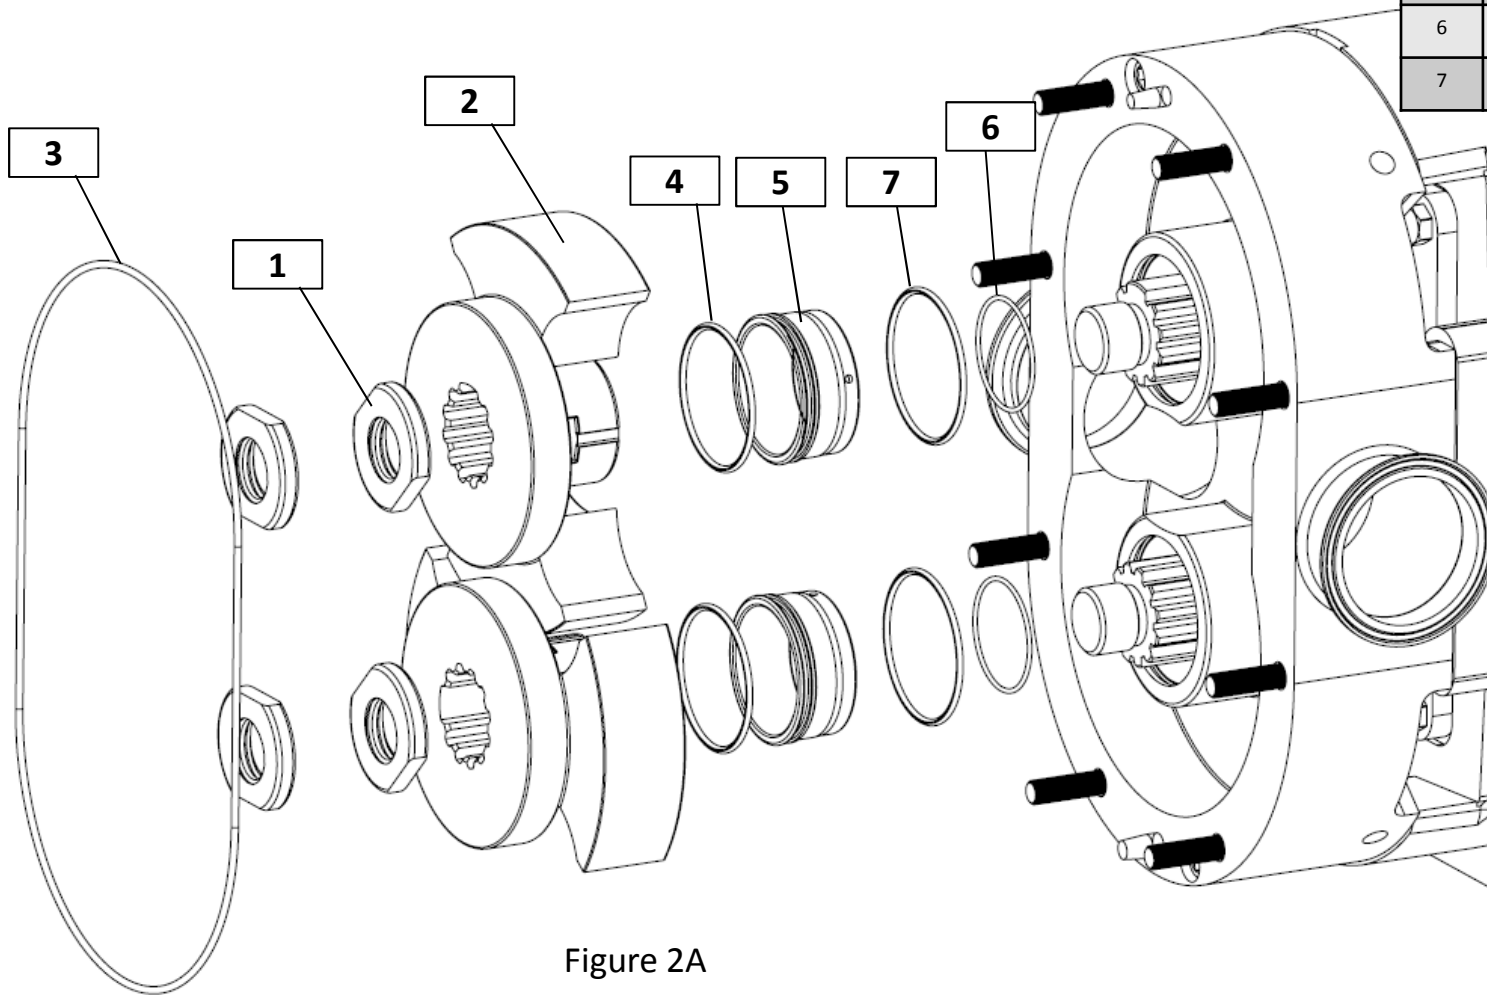

Figure 2A
1. Remove the rotor Jam nuts (Figure 2A, #1), and the rotors (Figure 2A, #2).
2. Remove the sleeves (Figure 2A, #5) from the rotor by turning them until the pin lines up in the long part of the “T” shaped slot in the rotor and pulling outward.
3. The sleeve o-ring is now exposed (Figure 2A, #4) . Replacement may not be necessary every time, but cleaning is suggested.
4. Remove the main body o-ring (Figure 2A, #7). The use of an o-ring pick is suggested.
5. Hook out the rotor o-rings (Figure 2A, #6). They will be on the shaft toward the back of the rotor’s shoulder. Two o-ring picks may be required and replacement is suggested.
1. Remove the rotor Jam nuts (Figure 2A, #1), and the rotors (Figure 2A, #2). Remove the body retaining socket-head cap screws. Prize the body from the gearcase by hitting the ferrules in an alternating fashion with a soft hammer.